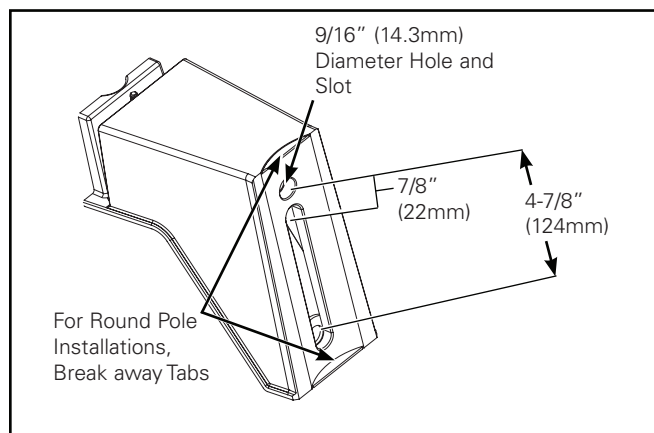
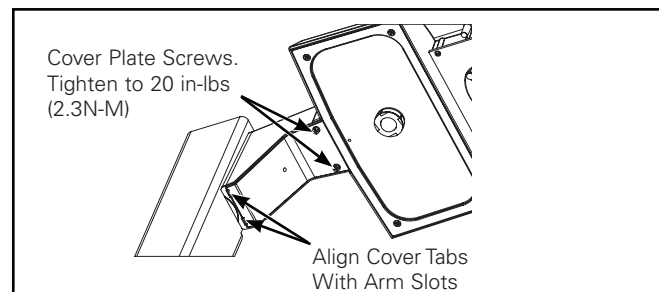

Figure 1.
Figure 5.
Pole Mount Arm (Figure 1. - Figure 5.)
1. Pole mounting arm is designed for a square or round pole. Round pole installation will require the mounting arm break away tabs to be removed. Grab break away tab with pliers and break-away the tab. (Figure 1.)
Note: Ensure the luminaire supply leads do not get pinched between cover and mounting arm. (Figure 5.)
Note: Assurez-vous que les fils d'alimentation du luminaire ne sont pas pincés entre le couvre-joint et le bras de montage. (Figure 5).